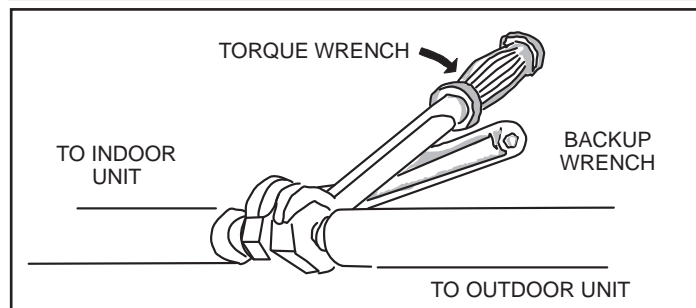
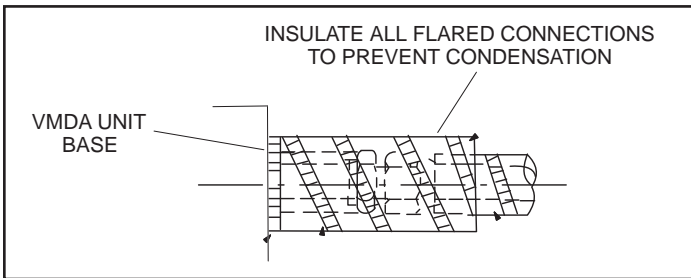

Figure 6. Tighten Flare Nut
Figure 7. Insulate Flared Connections
7. Once snug, continue another half-turn on each nut which should create a leak-free joint. A torque wrench may be used to tighten flare nuts using Table 2 recommendations. See figure 6. Do not over-tighten a flared joint. Flared connections should always be accessible and must be insulated to prevent condensation. See figure 7.